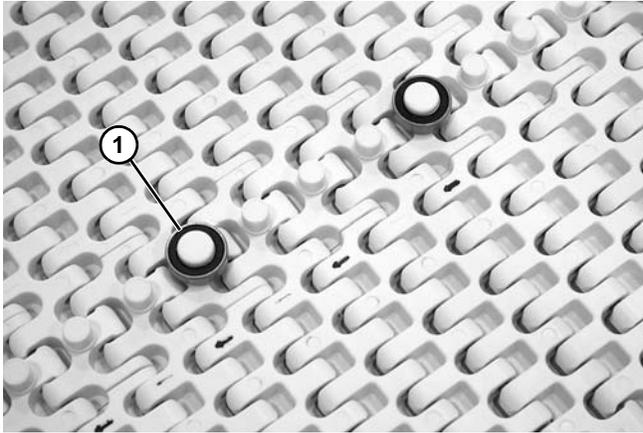

Figure 34
The bearings (Figure 34, item 1) on the underside of the belt must not be next to each other. A minimum of one space, and a maximum of three spaces, is required between bearings.